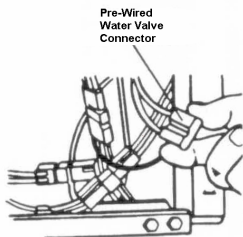

Figure 16
14. Attach water valve connector to valve assembly (see Figure 16).